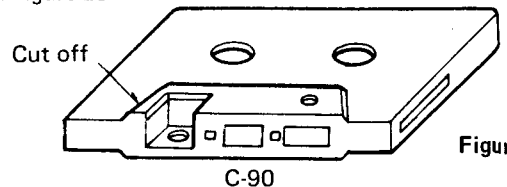

Figure 29
P.S. When the mirror cassette is not available, please re-model a normal tape, type C-90 as shown below. See figure 29.